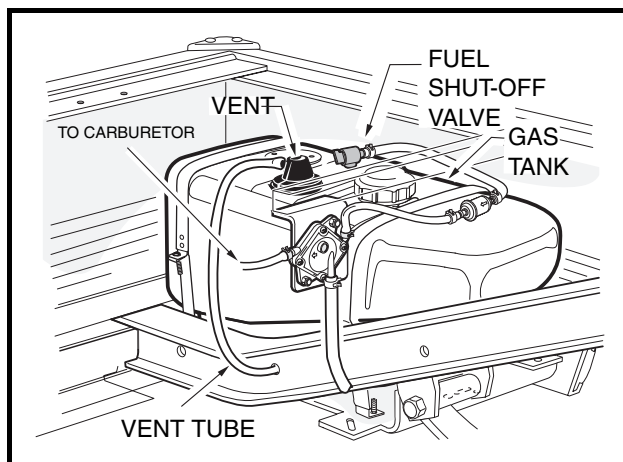
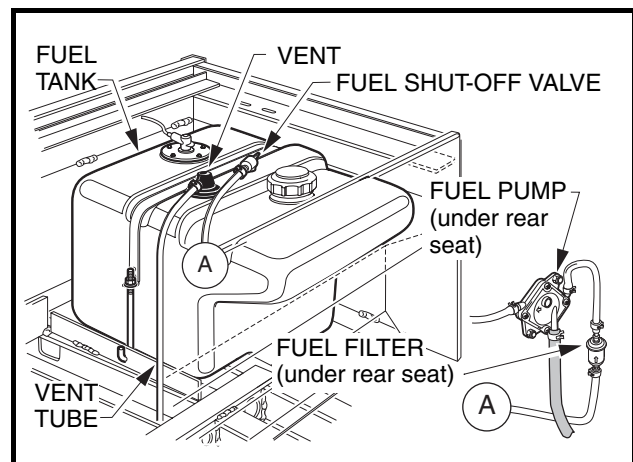
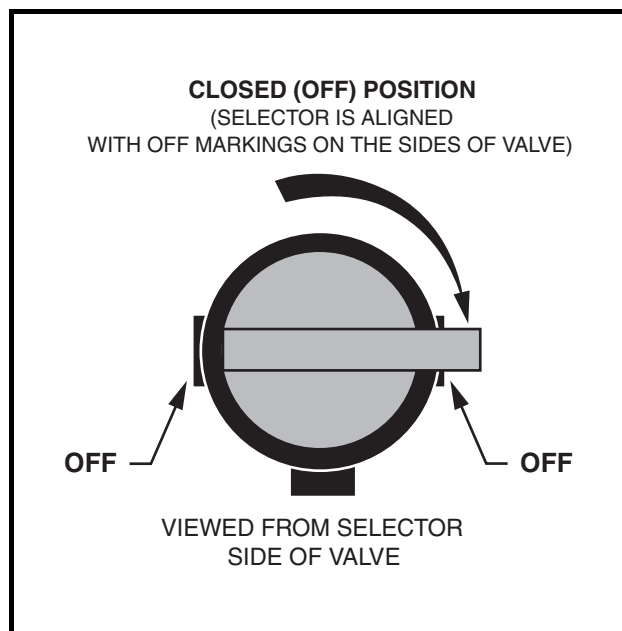

Figure 14-18 Turf 272/Carryall 272/XRT 1200 Fuel System
Figure 14-19 Carryall 472/XRT 1200SE Fuel System
Figure 14-20 Closed Fuel Shut-off Valve
2. Turn fuel shut-off valve to the closed (OFF) position (**Figure 14-20, Page 14-28**).
The fuel shut-off valve is located on top of the fuel tank (**Figure 14-18, Page 14-27** or **Figure 14-19, Page 14-27**). The fuel shut-off valve should always be turned to the closed (OFF) position during vehicle storage, towing or trailering or maintenance and service (**Figure 14-20, Page 14-28**).